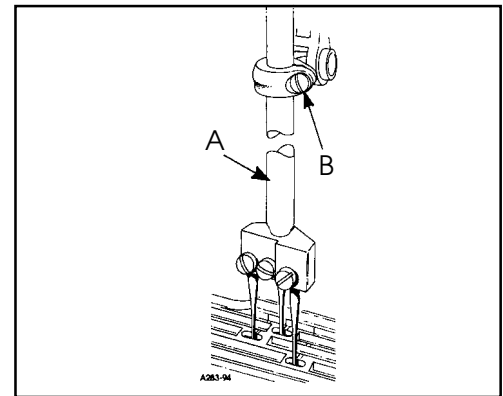

FIG. 4
Insert a new set of needles, type and size specified, with screw (B, Fig. 4) slightly loosened, lower needle bar (A) and turn needle head as required until the needles are centered in the throat plate needle hole slots. Tighten screw (B) torque to 19-21 in. lbs. (2.1-2.4Nm).